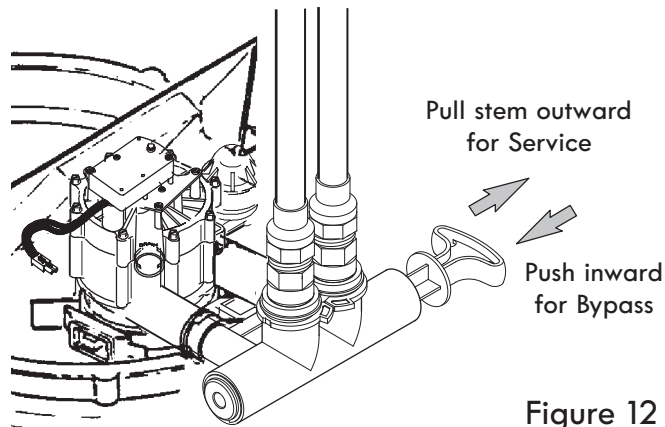
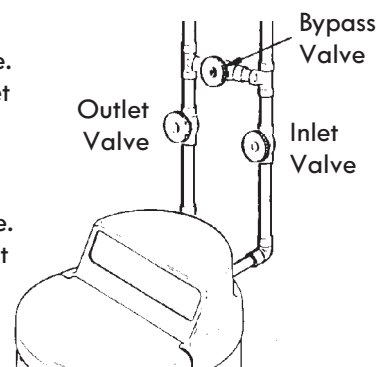

Figure 12
Figure 13
If you installed a 3-valve bypass system (Fig. 13), electrical continuity will be maintained. If you installed the non-metallic bypass valve (Fig. 12), restore the ground as follows:
3. Place bypass valve(s) in "bypass" position (see Figures 12 & 13). On a single valve, slide the stem inward to bypass. On a 3-valve bypass, close the inlet and outlet valves and open the bypass valve.